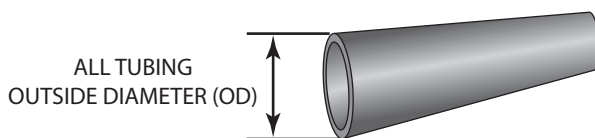

FIGURE 1-19 Tubing diameter measurement.
- **Diameter**—The diameter for tubing is always expressed as the OD, **Figure 1-19**.